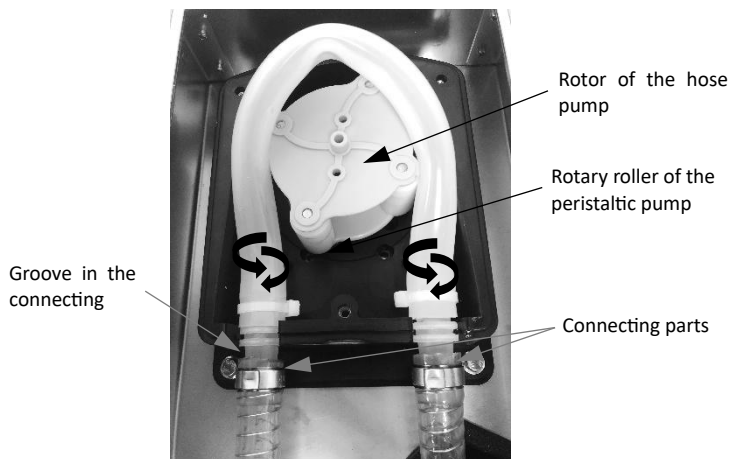

Figure 18: Peristaltic pump without lid showing the pump hose when inserting the new hose system
- a.) Positioning or fixing the pump hose (left + right) by aligning the respective groove in the two connecting parts with the lugs in the pump housing and pushing them on as far as possible (see Figure 18 to Figure 21).